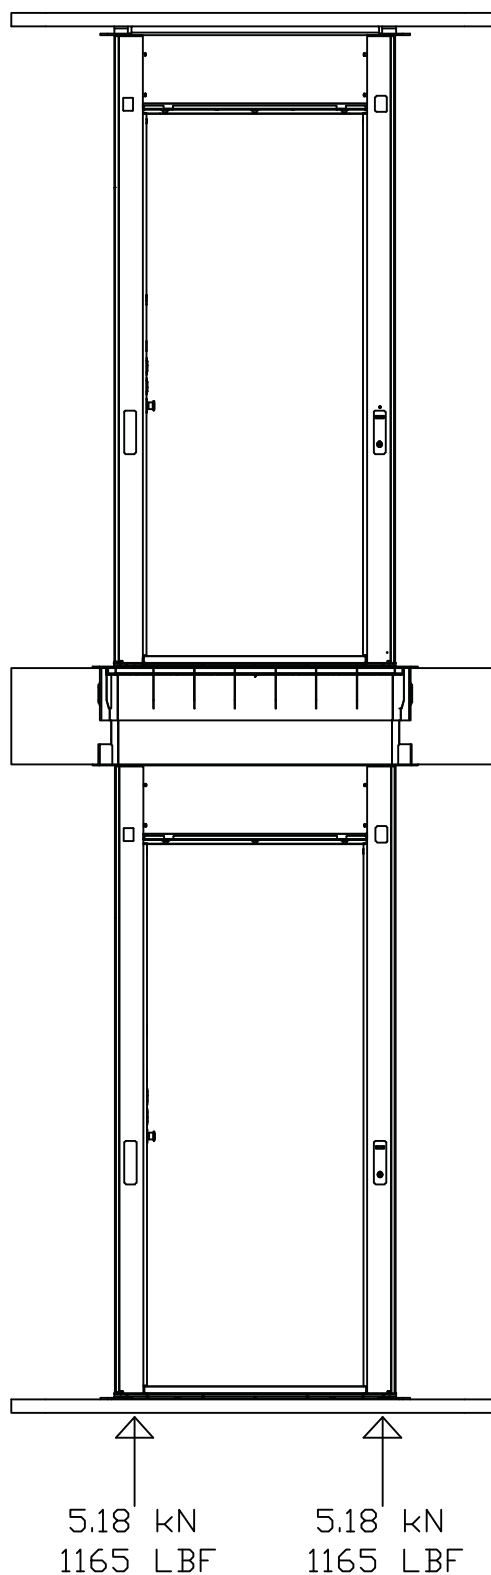

Figure 3: Support Load Diagram
- Luma L is designed to transfer the fully loaded lift weight and impact forces to the lowest level through the rail base plates, provided it is properly installed in a structurally sound building with consistent floor-to-floor heights. (Figure 3)